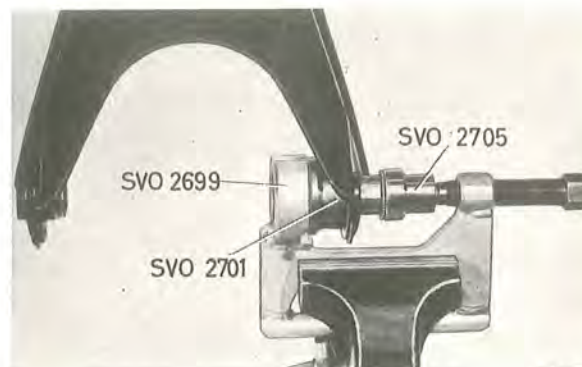

Fig. 6-28. Fitting the rubber bush, lower wishbone
2. Press the bushes in with drift SVO 2705 (turned in the opposite direction) as well as counterhold SVO 2701 and press tool SVO 2699, see Fig. 6-28. Both bushes should be faced with the flanges rearwards in the vehicle, see Fig. 6-14.